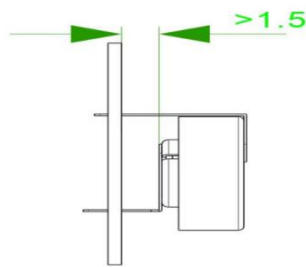

Figure 7: Soldering example
- Make sure that there is more than 1.5mm gap between the sensor and the PCBA to ensure that target gas can reach the sensor freely as shown in Figure 7.